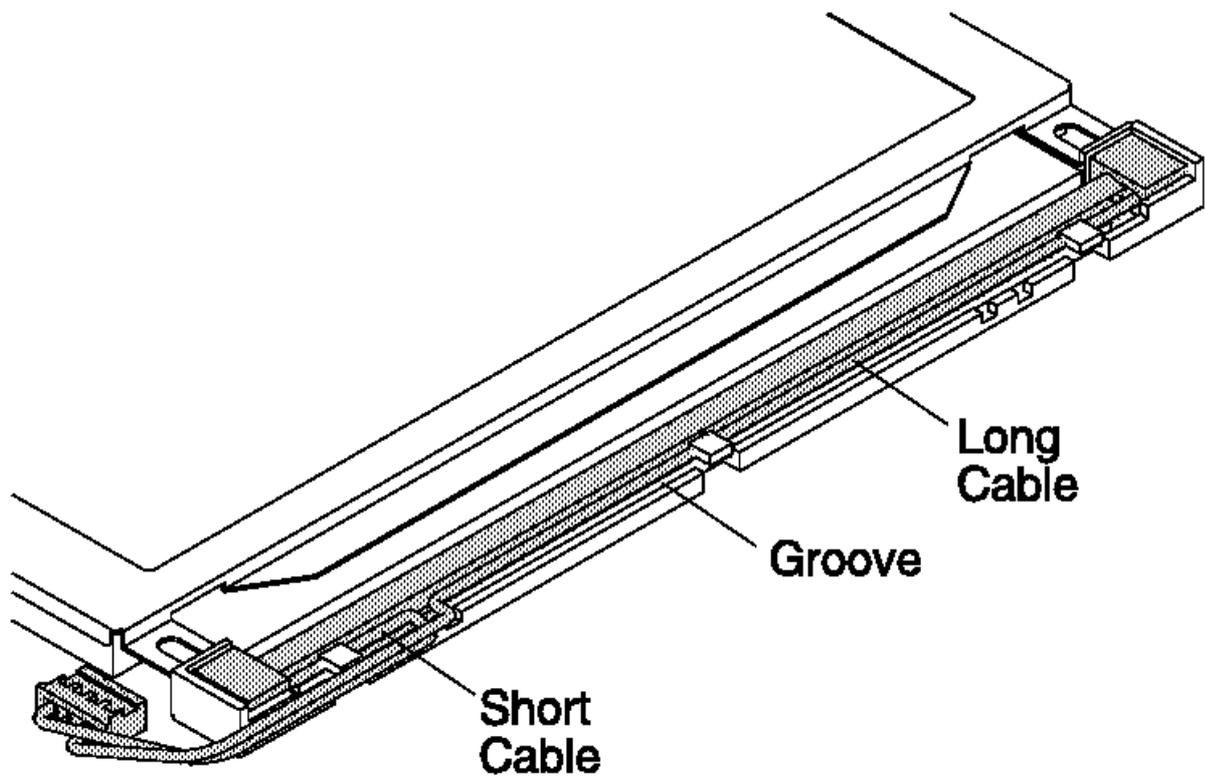

Figure 3-14. Reassembling the CCFL Assembly
- a. When reinstalling the CCFL assembly, take note of the length of the cables. There is a long cable and a short one. Place the short cable at the bottom edge. See Figure 3-14.